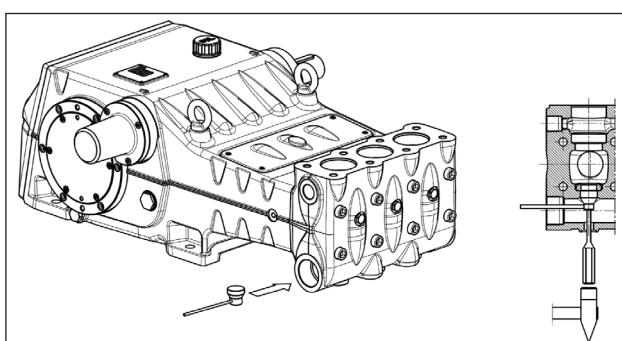

Fig. 113
If removing the suction valve insert proves to be particularly difficult (for example because of incrustations due to prolonged inactivity of the pump), use the extractor tool code 27516200 (for LK36-LK40-LK45) or code 27516300 (for LK50-LK55-LK60)(pos. ①, Fig. 113) and proceed as instructed.